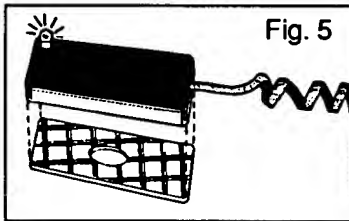

Fig. 5
19. Remove the 2nd backing sheet from the adhesive pad and position the rectangular sensor over the flat area on the camera you just cleaned. Press the sensor firmly into place to insure a proper bond. The light on that sensor will have changed to **RED** when the sensor is applied correctly. (See Figs. 5 and 6).